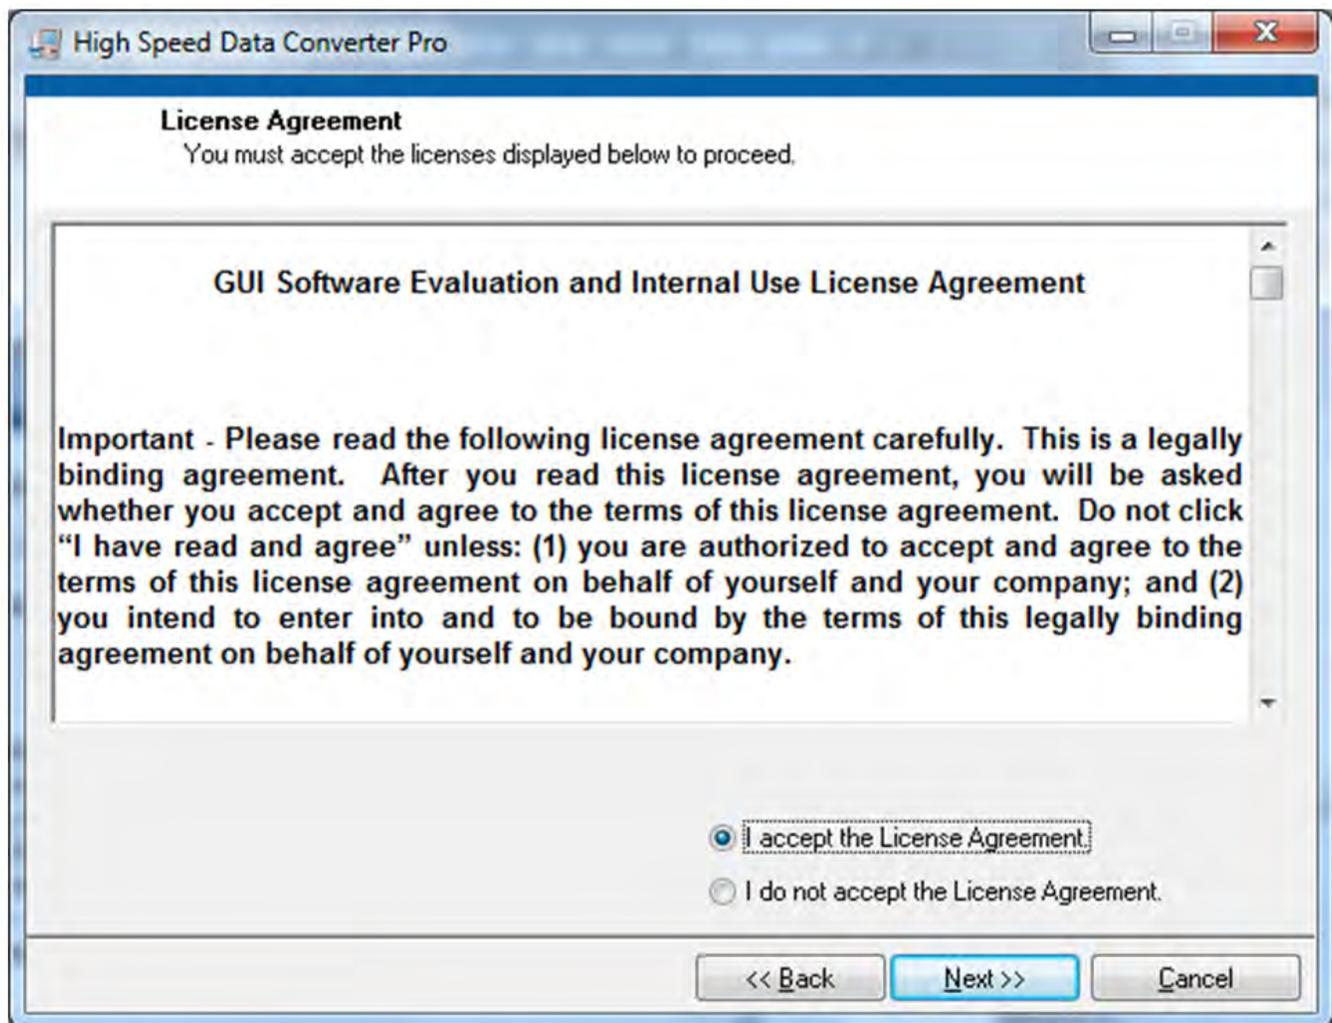

Figure 32. HSDCPro Install (TI License Agreement)
- Read the License Agreement from Texas Instruments and select *I accept the License Agreement* and press the *Next* button as shown in Figure 32.